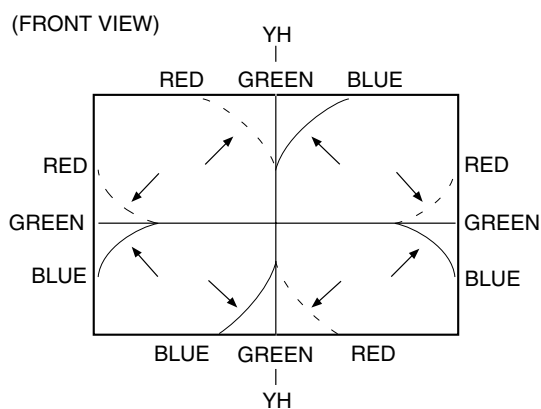

Fig. 7
3. Using the VR on the deflection yoke, match the Y_H (CROSS). (Fig. 7 and 9)